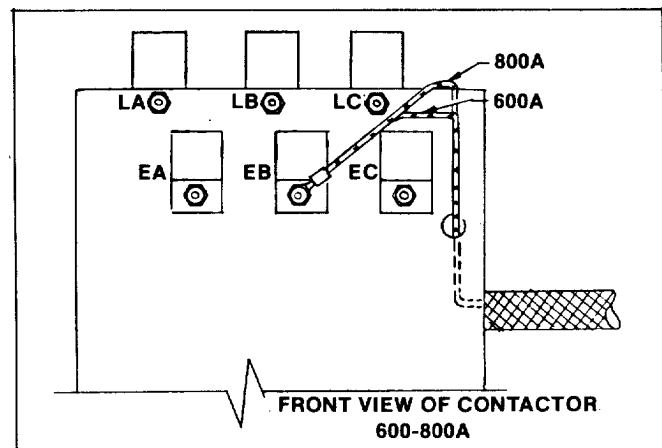

Figure 3. 600-800 Amp Switch
1. Add lead T019-1654-19218 to 600 Amp Switches, or lead T019-1854-19217 to 800 Amp Switches to the EB terminal on front of the contactor. See Figure 3.
3. Route the lead through the hole on 600 Amp Switches and over the top on 800 Amp Switches; through the contactor harness to the number 17 cavity on the contactor harness plug. See Figure 3. Secure with tie wraps (X-468-1).